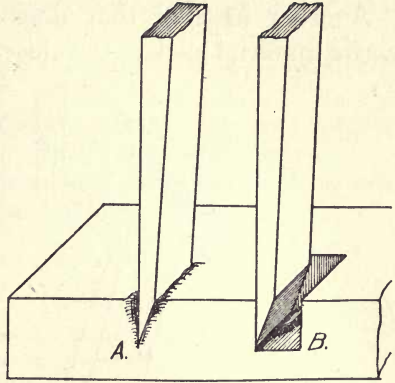

FIG. 24.—ACTION OF CHISEL IN ENTERING WOOD.
**Use of the chisel.**—In using a chisel, never place either hand in front of the cutting edge, as a slip of the tool may cause a serious accident. The chisel must be kept very sharp; the method of sharpening will be given later. The action of the chisel in entering the wood is like that of a wedge, and unless the wood on one side gives way to the pressure, the fibers on each side will be forced back and crushed as in *A*, Fig. 24. If